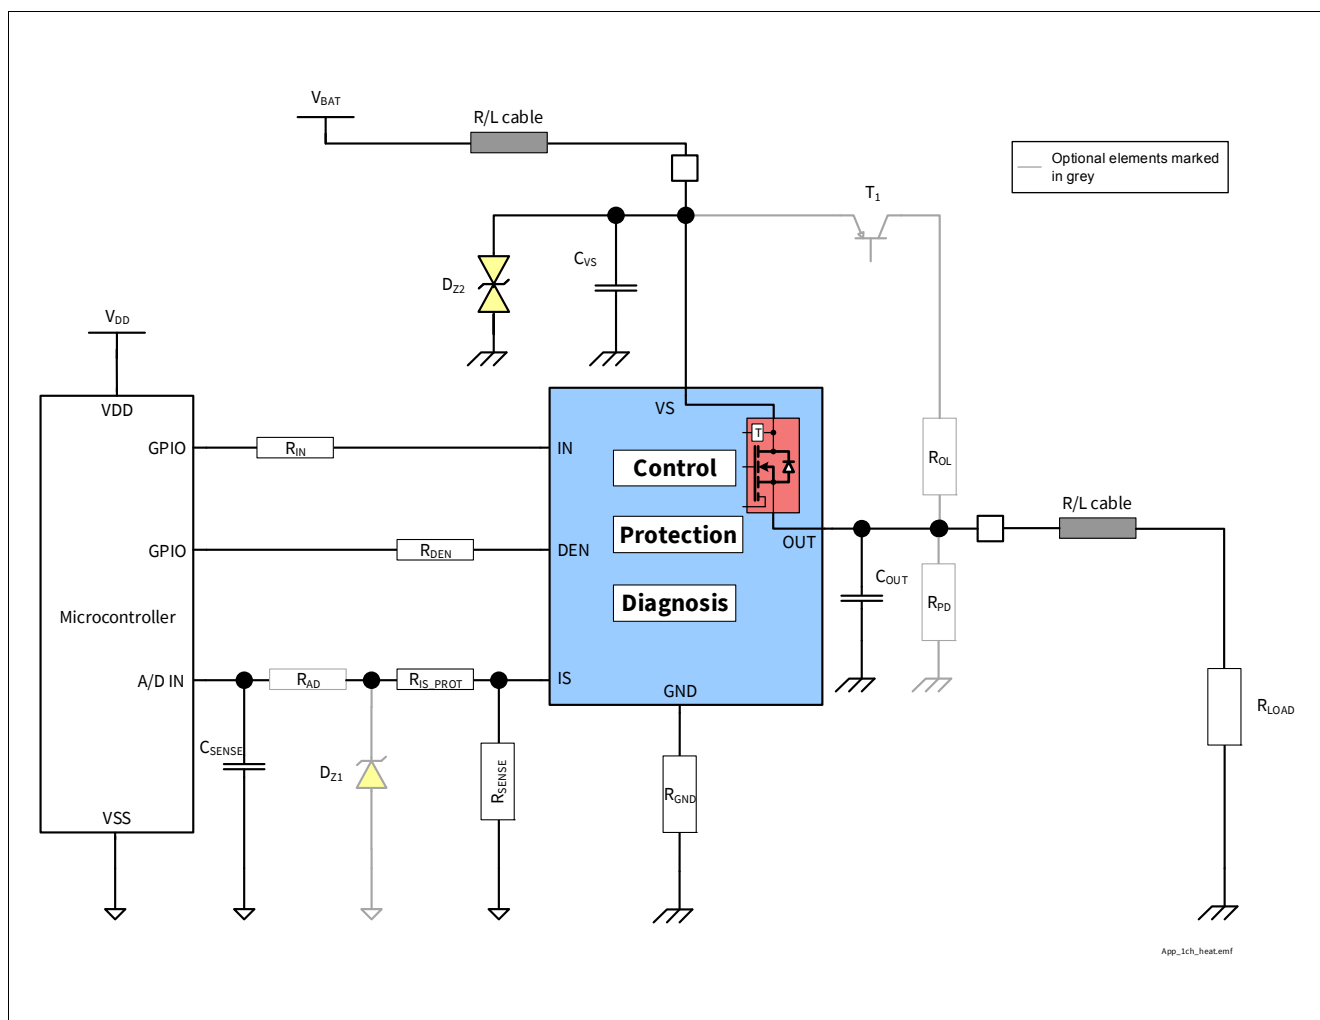

Figure 37 BTS7008-1EPP Application Diagram
1.01 , 2018-06-14	Page numbering corrected Figure 1, Figure 29, Figure 37 updated